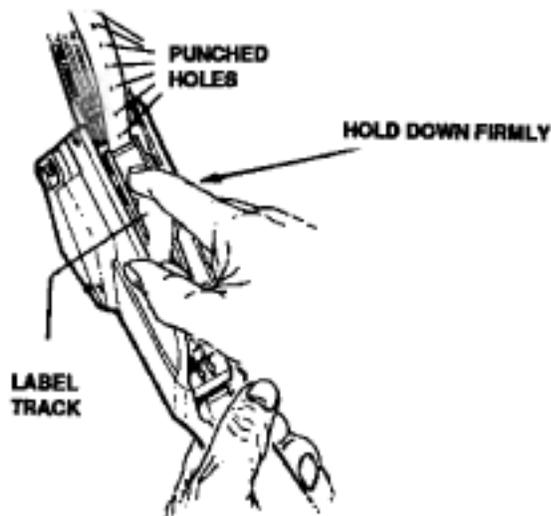

FIGURE 6
12) Hold label track down and firmly with index finger - squeeze handle repeatedly until 10 or more punched holes appear in label strip - see figure 6.